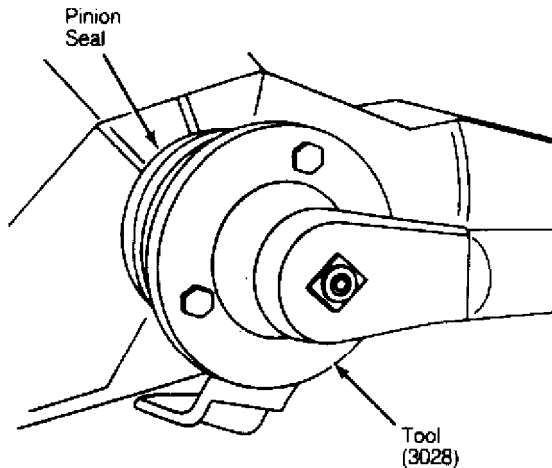

Fig. 8: Replacing Drive Axle Pinion Seal
2) Coat threads of pinion nut with thin coat of locking compound. Tighten pinion nut exactly to previously marked position. Lock collar of pinion nut. Connect drive shaft and tighten to 32 ft. lbs. (45 N.m). See Fig. 8.